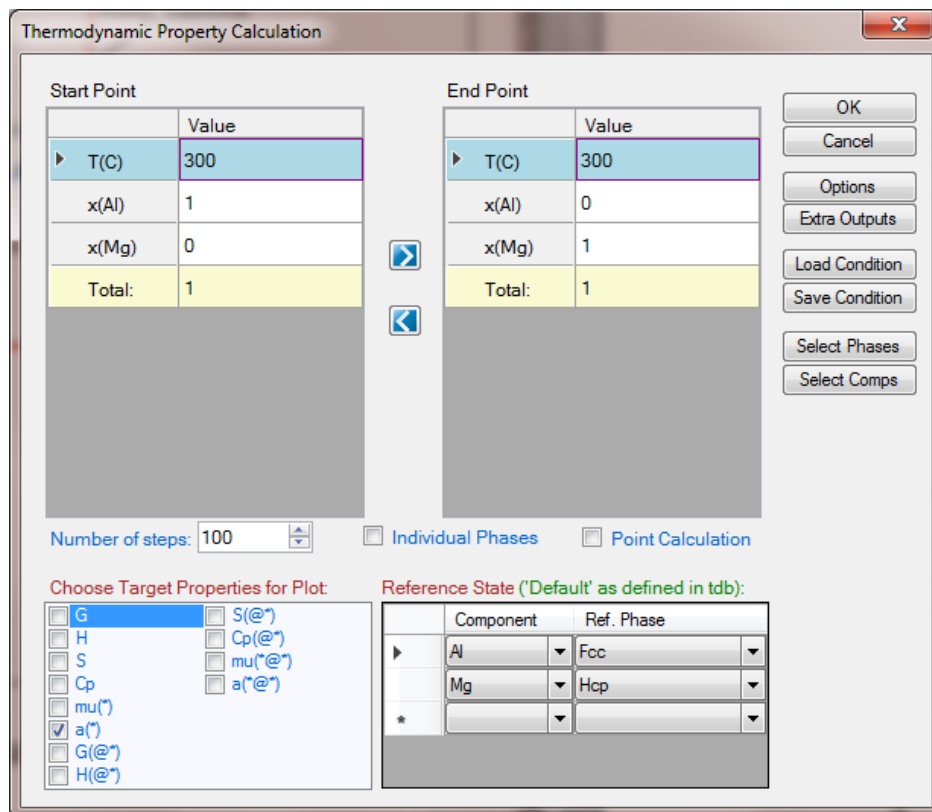

Figure 1.10.2: Calculation of the activity of Al and Mg from “Property” calculation
- Set Calculation Condition as shown in Figure 1.10.2. The property selected is a^* , and the reference states are set as Fcc for Al and Hcp for Mg; (*) means the activity of every component (both Al and Mg in this case)